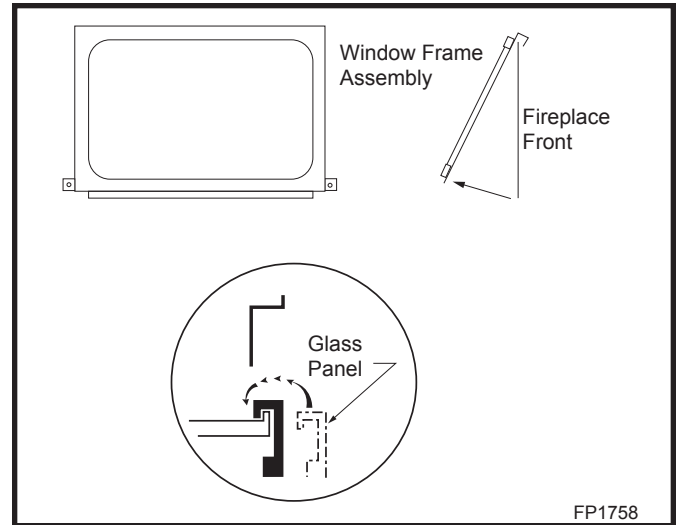

Fig. 31 Window frame assembly removal.
5. Remove two (2) bolts securing bottom door frame to unit. (Fig. 31)
6. Tilt window frame assembly out slightly at the bottom, lift the frame up and away from the fireplace. (Fig. 31)